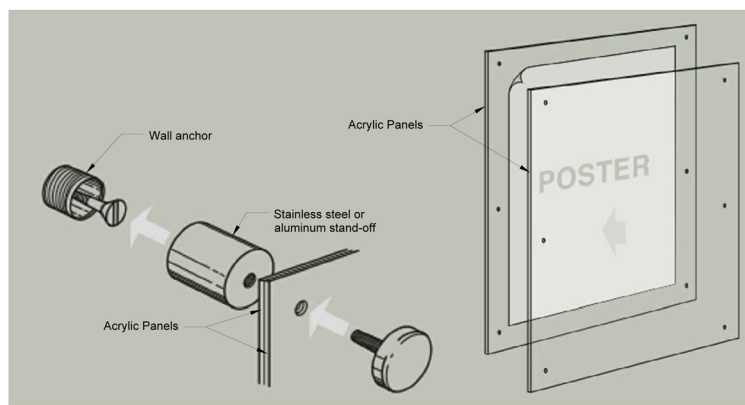

Figure 24.12
- 24.12. UMD F1.1 sign assembly shall comply with figure 24.12.